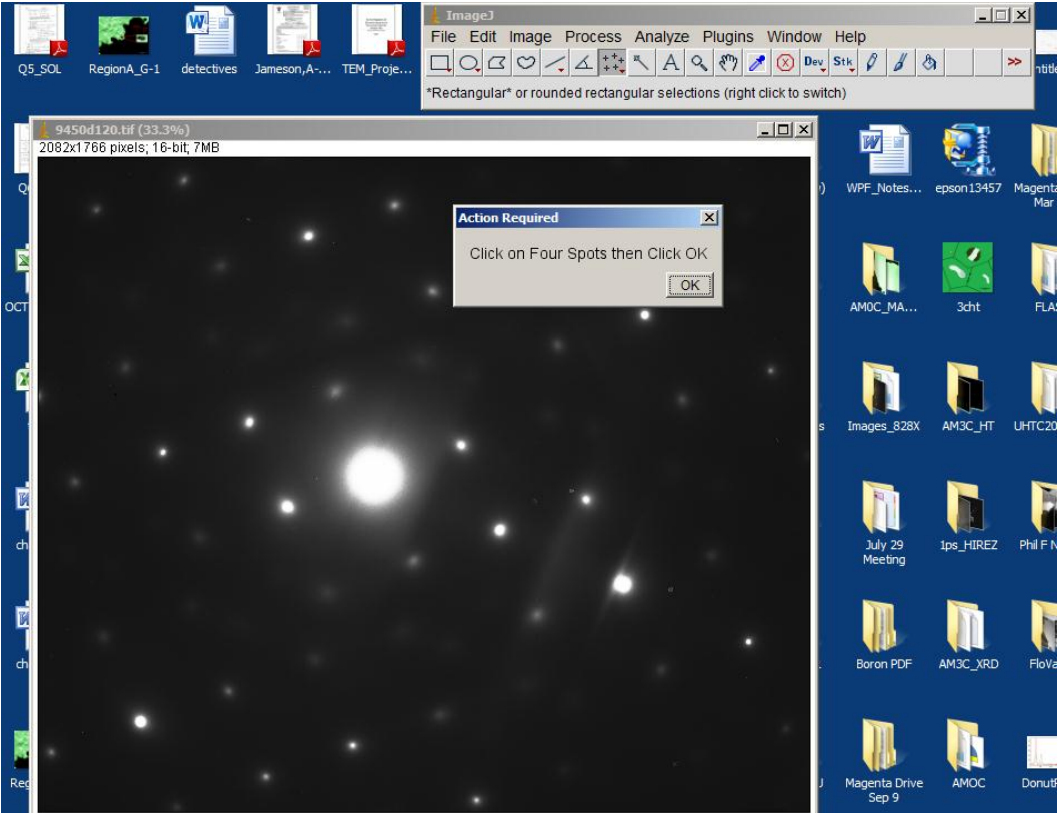

Figure 3: 4 Spots plug-in Selected, awaiting your input!
3. A pop-up will appear asking you to select four diffraction spots (Figure 3).